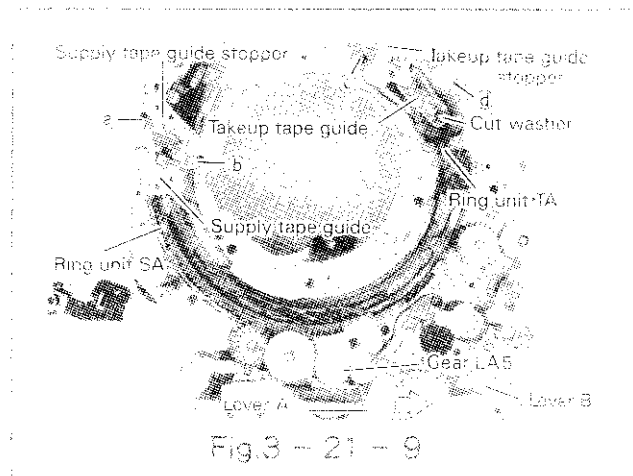

Fig.3-21-9
- 1) Attach the supply tape guide stopper to the main plate so that the positioning hole matches the positioning pin, then fix with two fixing screws (②, ③). (See Fig.3-21-9).
- 2) Attach the Takeup tape guide stopper to the main plate so that the positioning hole matches the positioning pin, then fix with two fixing screws (④, ⑤).
- 1) By turning the gear LA5 clockwise, move the ring unit TA and SA to the position where the supply & Takeup tape guide assembly can be attached easily. (See Fig.3-21-9).